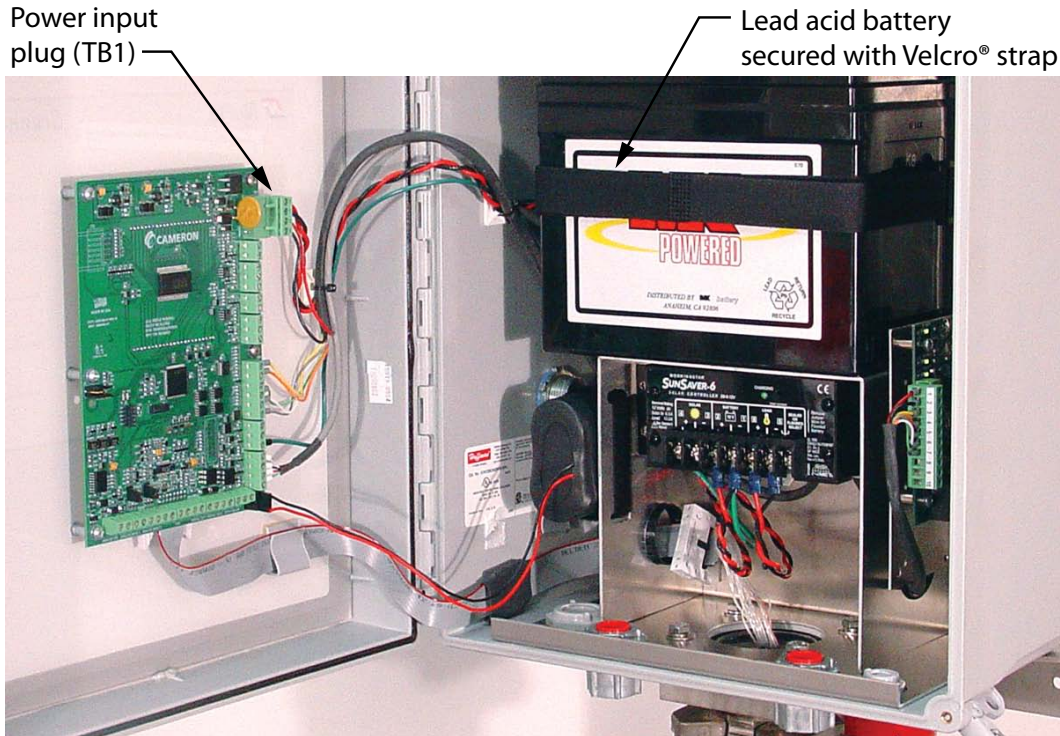

Figure 4.1—Lead acid battery replacement
To replace the sealed lead acid battery, follow the procedure below, and reference Figure 4.1, page 64, as needed:
3. Disconnect the power input plug (TB1) from the circuit board (Figure 4.1, page 64).